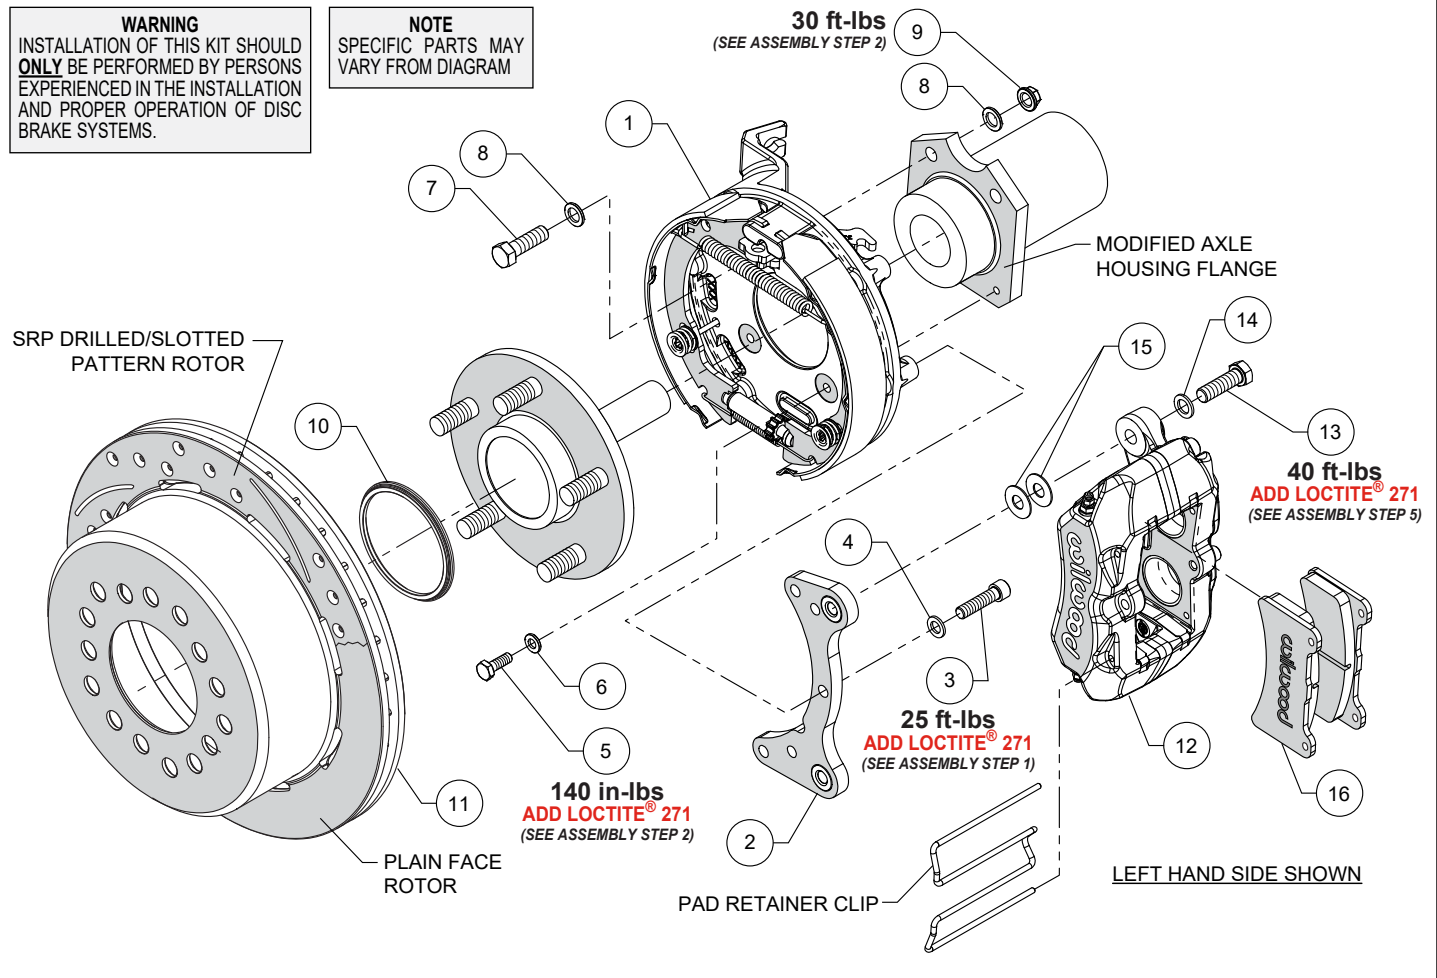
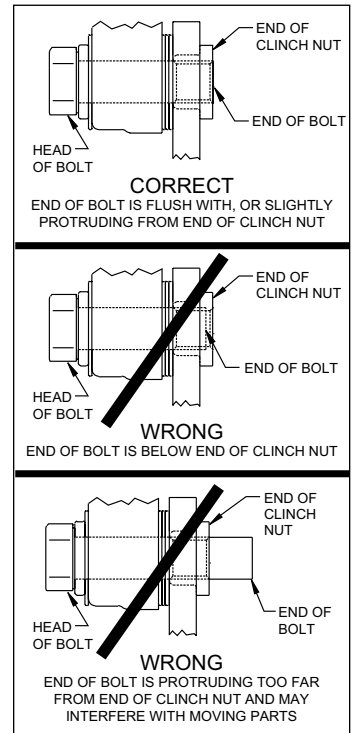

Figure 1. Typical Installation Configuration
Figure 4. Clinch Nut Engagement Diagram
NOTE: Numbers in parenthesis refer to the parts list and Figure 1 on the preceding pages.
CAUTION: All mounting bolts must fully engage clinch nuts. Be sure to check that all bolts are either flush or protruding through flanged side of clinch nut after shimming, Figure 4.
STEP 1 Orient the backing plate assembly (1) and caliper mounting bracket (2) as shown in Figure 1 and Photo 1. **NOTE:** Be sure the heads of the caliper bracket clinch nuts (2) are facing outward toward the wheel. Use bolts (3) and washers (4) to mount bracket to backing plate. Apply red *Loctite*® 271 to the bolt threads and torque to value shown in Figure 1.
STEP 2 Attach backing plate assembly/caliper mounting bracket to lower threaded holes of axle housing flange using bolts (5), and washers (6), as shown in Photo 2. Use bolts (7), washers (8), and lock nuts (9) on remaining upper bolt holes to finish attaching backing plate to axle housing, Figure 1. Temporarily tighten all the mounting bolts. **NOTE:** The backing plate must fit squarely against the axle housing flange face. Inspect for interference from casting irregularities, machining ridges, burrs, etc. After the fitment has been checked, torque nuts (9) to value shown in Figure 1. Remove the backing plate lower M6 mounting bolts (5) one at a time, apply red *Loctite*® 271 to the threads and torque to value shown in Figure 1.
STEP 3 Slide the axle into the axle housing and secure following OEM instructions. Install the rotor registration adapter (10) onto the axle flange with the smaller O.D. facing toward the rotor/hat (11), Photo 3.
STEP 4 Align the correct hole pattern in the rotor/hat with the stud pattern on the axle flange and slide into place, Figure 1 and Photo 4. **NOTE:** The rotor/hat must fit flush against the axle flange or excessive rotor run out may result. Install three lug nuts (finger tight) to keep the rotor/hat assembly in place while continuing with the installation, Photo 4. **NOTE:** Some OEM and after market axles come with stud sizes larger than 1/2" diameter. Verify stud size and have a qualified machine shop drill the bolt circle of the hat/rotor to the correct stud size, if necessary.
STEP 5 **NOTE:** Please reference the caution statement at the beginning of the assembly instructions. Mount the caliper (12) onto the caliper mounting bracket (2) using bolts (13) and washers (14), as shown in Figure 1 and Photo 6. Initially place two .035"
The end of each bolt (13) must be flush with or slightly protruding from the head of the clinch nut, as shown in Figure 4. If necessary, place spare shims between washer (14) and caliper mounting ear to achieve the proper clinch nut engagement. Once the caliper alignment and clinch nut engagement are correct, remove the bolts (13) one at a time, apply red *Loctite®* 271 to bolt threads, and torque to value shown in Figure 1.